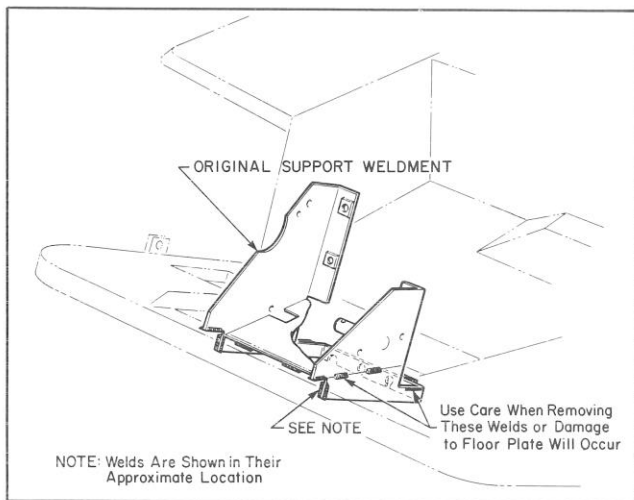

Figure 2
6. Using a grinder, air chisel or torch, remove the welds retaining the steering gear support weldment. Remove and discard weldment (Fig. 2).